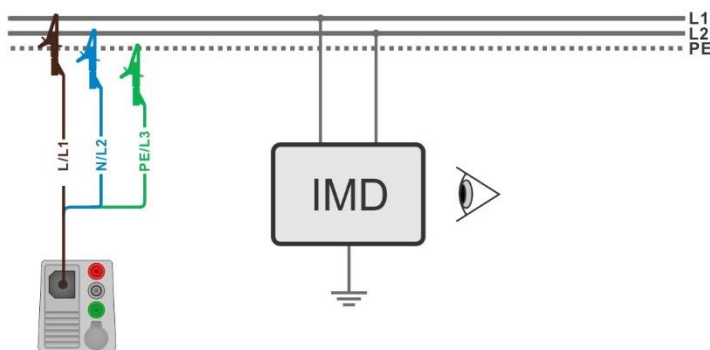

Figure 7.122: Connection with 3-wire test lead
- › Connect 3-wire test lead to the object under test, see **Figure 7.122**.
- Connect 3-wire test lead to the object under test, see **Figure 7.122**.